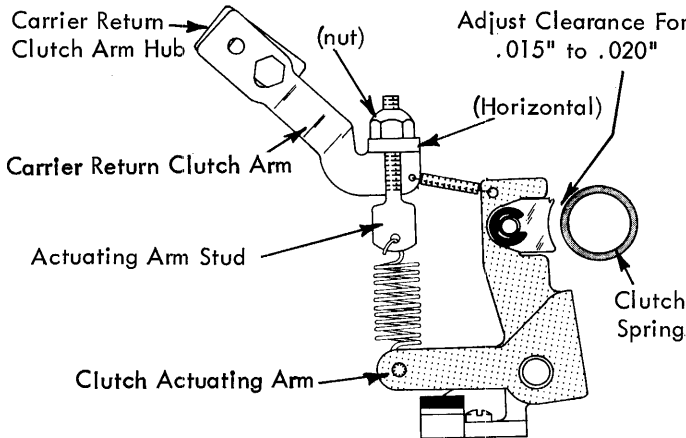

FIGURE 209. Carrier Return Actuating Arm Adjustment
6. Carrier Return Clutch Arm - Adjust the clutch arm on the carrier return clutch arm hub so that the formed lug which mounts the actuating arm stud will be horizontal when the machine is at rest (Fig. 209).
7. Shoe Clearance - The nylon shoe on the clutch actuating arm should clear the carrier return clutch spring by .015" to .020" when the machine is at rest (Fig. 209). Adjust the nut on the actuating arm stud to obtain the proper clearance.